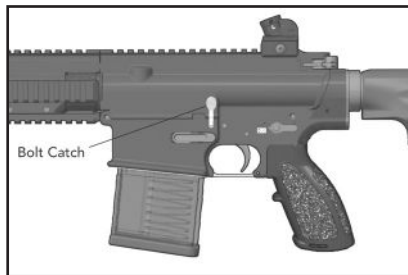

Fig. 33 – Depressing Bolt Catch to Chamber a Cartridge
6. Depress the upper portion (paddle) of the bolt catch. The bolt should go forward, stripping the top cartridge from the magazine and feeding it into the chamber (Fig. 33).